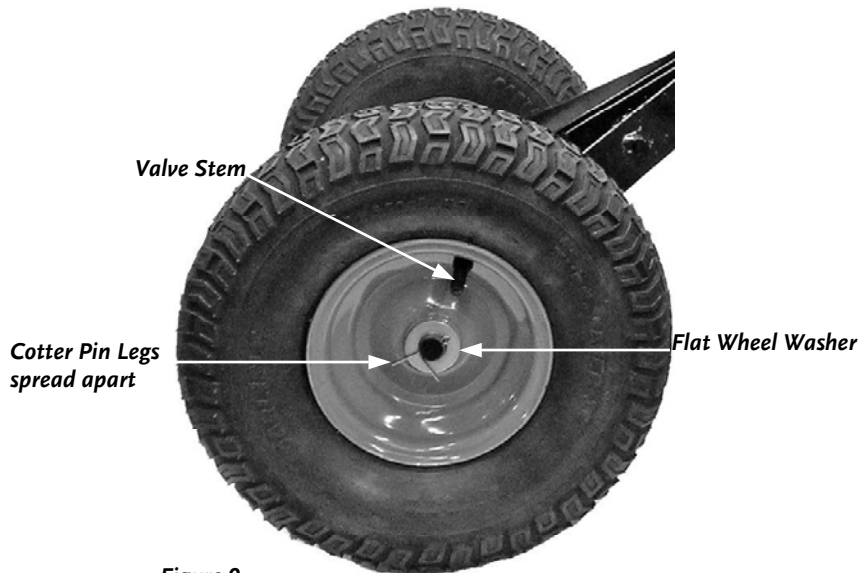

Figure 9
11. Slide a Wheel onto each Axle making sure that the Wheel Valve Stem is to the outside (**Figure 9** on page 15).
12. From the Hardware Bag, place one (1) Flat Wheel Washer on each Axle, slide a Cotter Pin through the Hole in the Axle on each side, and spread the Cotter Pin Legs using Pliers (**Figure 9** on page 15).